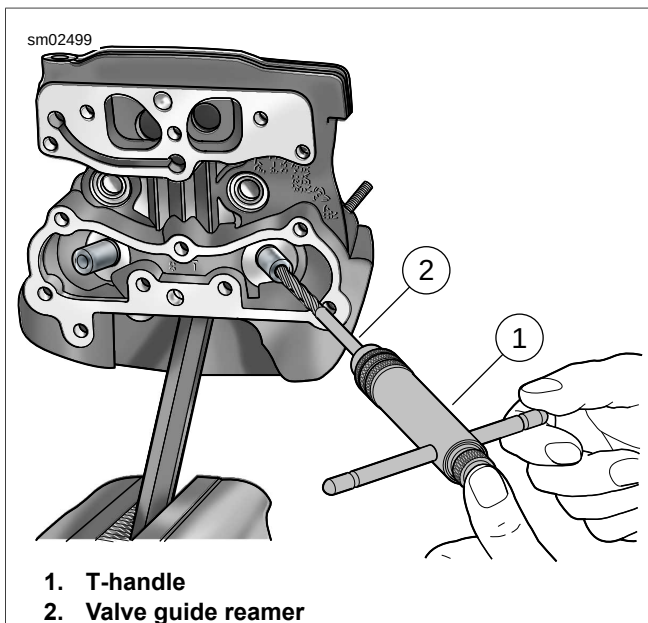

Figure 3-48. Reaming Valve Guide Bore
5. See Figure 3-48. Ream the guide.
- a. Install REAMER T-HANDLE (Part No. HD-39847) (1) on VALVE GUIDE REAMER (Part No. B-45523) (2).